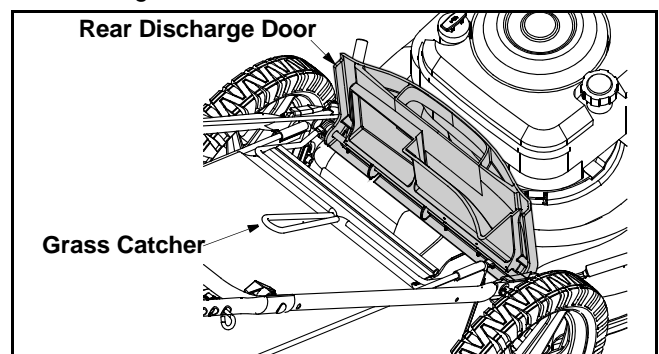

Figure 8
- Place the hooks, found on both sides of the grass catcher frame, over the chute door pivot rod at the rear of the mower. Release the rear discharge door. See Figure 8.